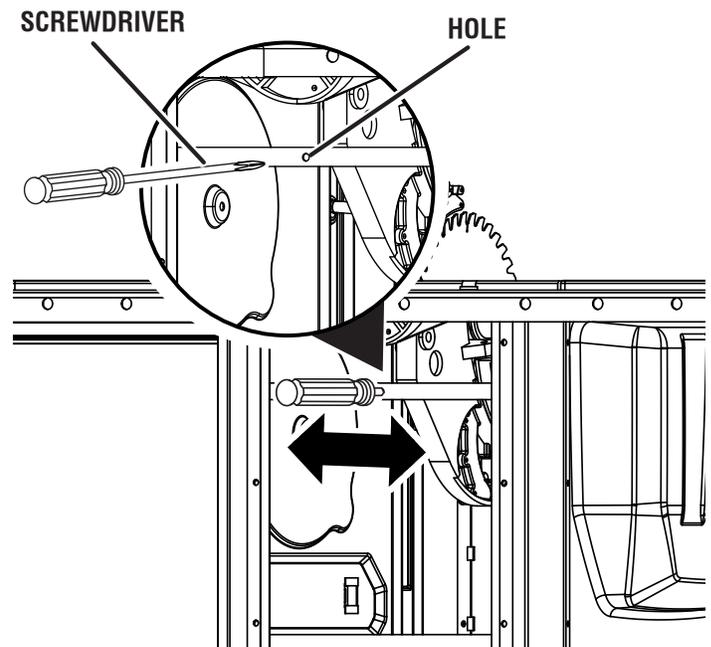

Fig. 55
- Insert a screwdriver into the hole located at the rear of the saw as shown in figure 55. Use the screwdriver to move the motor and blade assembly to the left or the right.